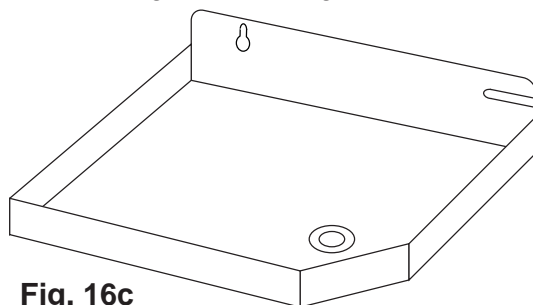
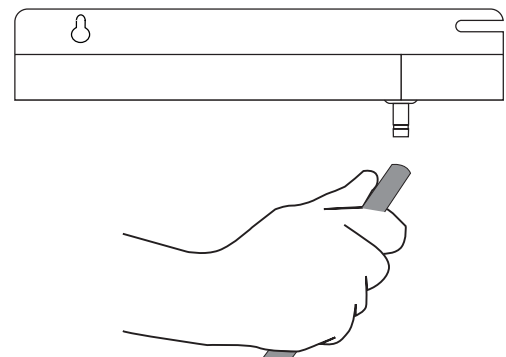

Fig. 16c
Fig. 16d
16.3 Take the 5/16 dia. plastic tube and push one end on the connector located at the bottom of the overflow pan. Please see Fig. 16c and Fig. 16d.